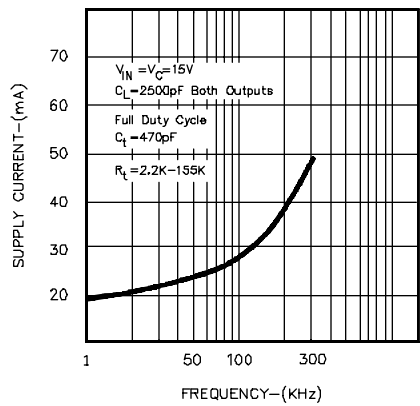

FIGURE 14. SUPPLY CURRENT VS. OUTPUT FREQUENCY
2. If more dead time is required, select a larger value of R_D using Figure 14 as a guide. At 40 KHz dead time increases by 300 ns/ Ω .